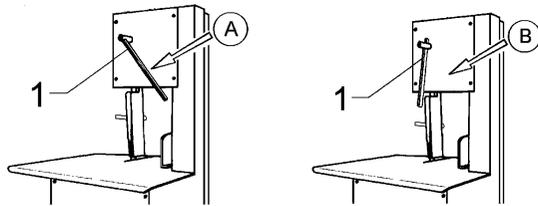

Fig. 7.6.1
**7.6.1 - Blade tensioning setting (Fig. 7.6.1)**
Blade tensioning could be settled mechanically moving knob "1". Rotate the knob in position "A" (Fig. 7.6.1) blade is tensioning. To unblock the blade rotate the knob in the position "B".
- Stretch the blade rotating the knob in position "A" (Fig. 7.6.1).